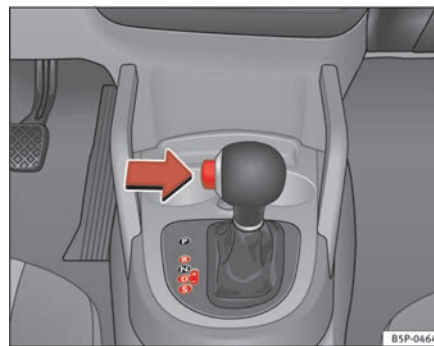

Fig. 142 Driving
- Press on the button on the selector lever knob (on the left, ⇒ page 173, fig. 142).